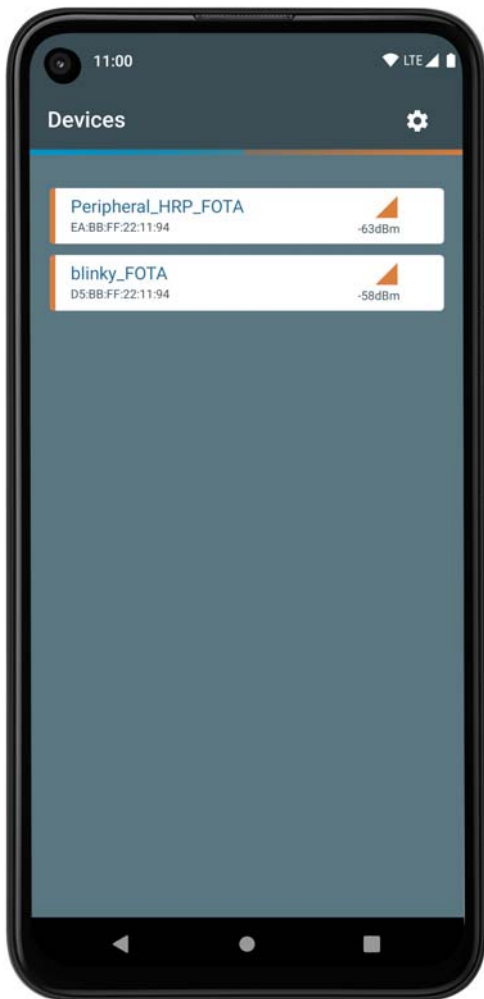

Figure 20. RSL FOTA Mobile Application Showing Bluetooth Low Energy Devices
2. Launch the application and select the FOTA enabled firmware device from the list of devices, as shown below in Figure 20.